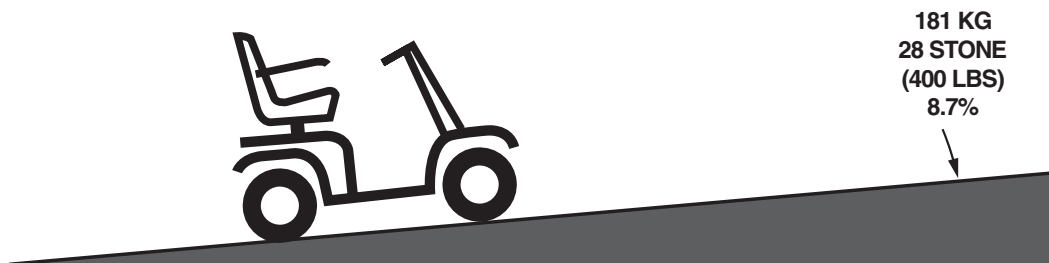

Figure 1. Maximum Recommended Incline Angle
Handicap public access ramps are not subject to government regulation in all countries, and therefore do not necessarily share the same standard percent of slope. Other inclines may be natural or, if man-made, not designed specifically for scooters. Figure 1 illustrates your scooter's stability and its ability to climb grades under various weight loads and under controlled testing conditions.
**WARNING! Any attempt to climb or descend a slope steeper than that shown in figure 1 may put your scooter in an unstable position and cause it to tip, resulting in personal injury.**